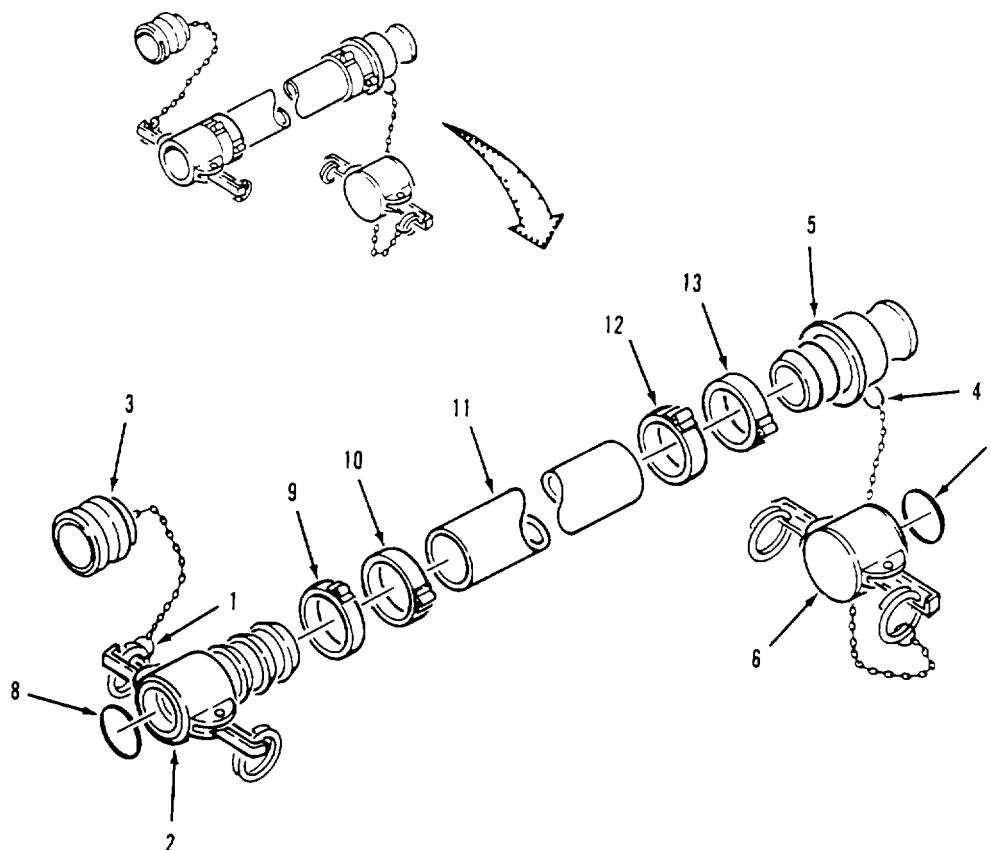

Figure 4-8. Discharge and Suction Hose Assembly.
- (14) Install gasket (8, figure 4-8) in female coupling (2).
- (15) Install gasket (7) in dust cap (6).
- (16) Connect split ring (4) to male coupling (5) Install dust cap (6) on coupling.
- (17) Connect split ring (1) to female coupling (2) Install dust plug (3) on coupling.
- (18) Install hose in water system (para 3-4b).
- (19) Startup water system (para 2-13c) and test repaired hose for leaks.